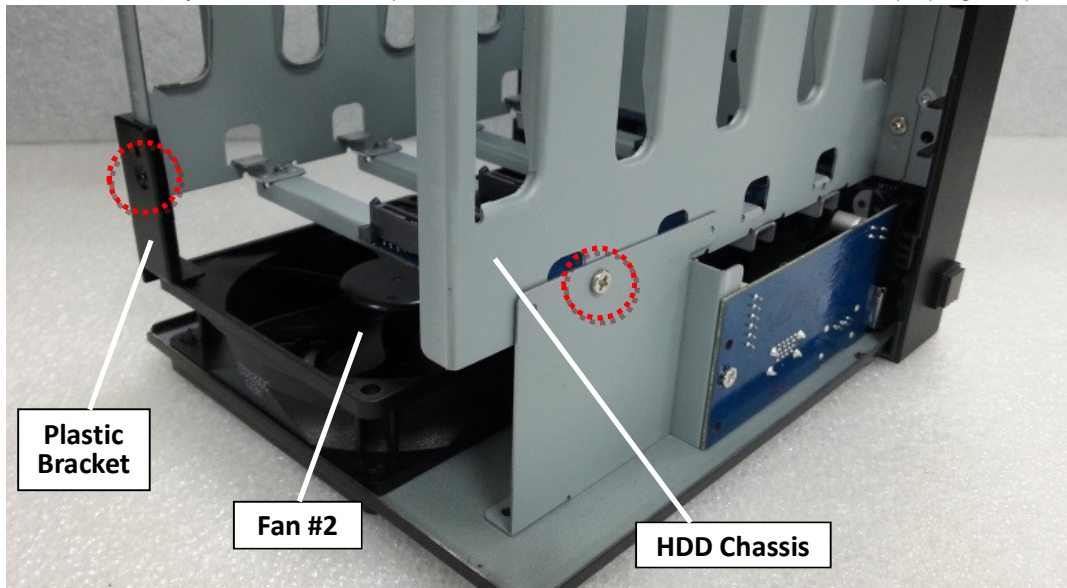

Fig. 13
- 2.1.7 Release the two (2) screws on the enclosure frame (Marked by the red circles) then remove the plastic bracket (Between fan #2 and the HDD chassis). (Fig. 13)